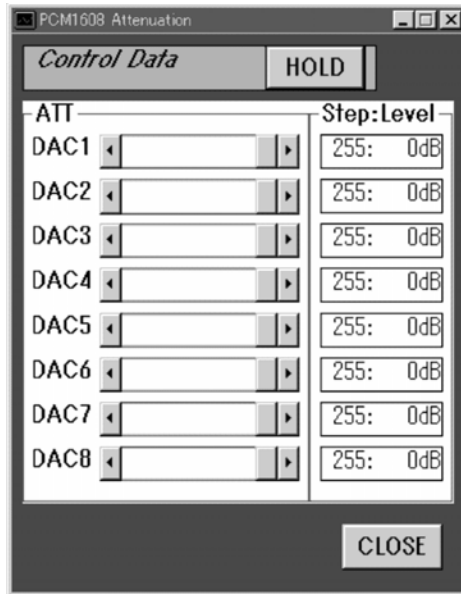

Figure 2-2. Attenuation Control
- Attenuation control (see Figure 2-2): enables users to control PCM1681 digital attenuation level by changing the slider position for each channel.